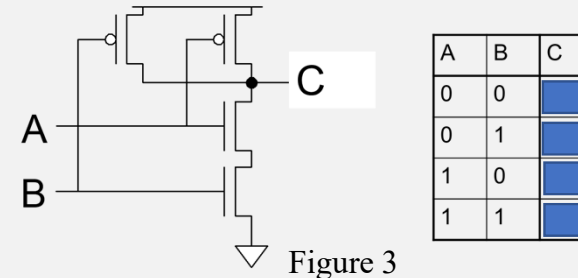

Figure 3
❑ (3) Fill in the highlighted blanks in Figure 3.